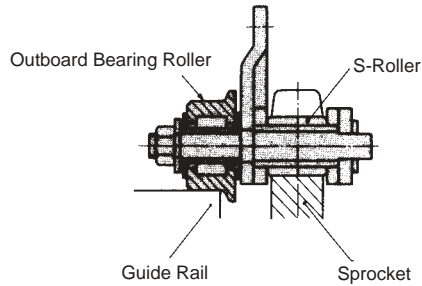

Figure 6.6 Outboard Bearing Roller Conveyor Chain
- (1) Outboard Bearing Roller Conveyor Chain is used on assembly lines (Figure 6.6). In this type of chain, bearing rollers are installed on the outside of the chain, making it ideal on long assembly lines, like auto lines, where work is performed on the conveyed products along the line. Outboard Bearing Roller Conveyor Chain is easy to support on the return side. If you combine the design features of Outboard Bearing Roller Conveyor Chain and Bearing Bush Chain, you can create a chain with very, very low elongation (practically nonexistent) and minimal rolling friction.